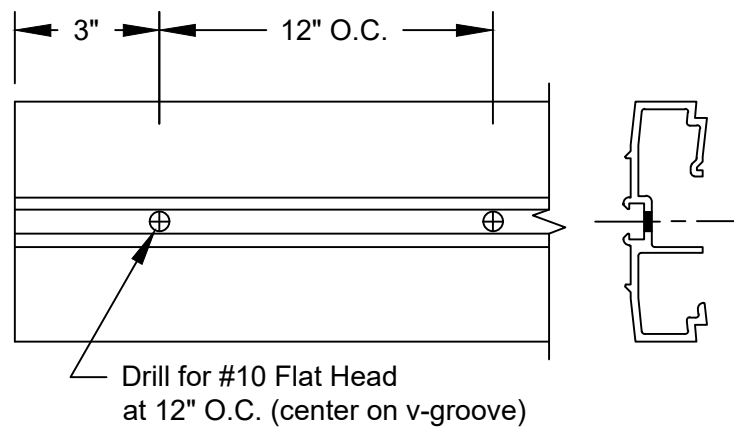

FIGURE 6
- 1.7 If glazing SSG mullion using 1/4" glass, fabricate IW-131 glazing adaptor for #10 (.191Ø) holes at 12" o.c. SEE FIGURE 6, page 10.